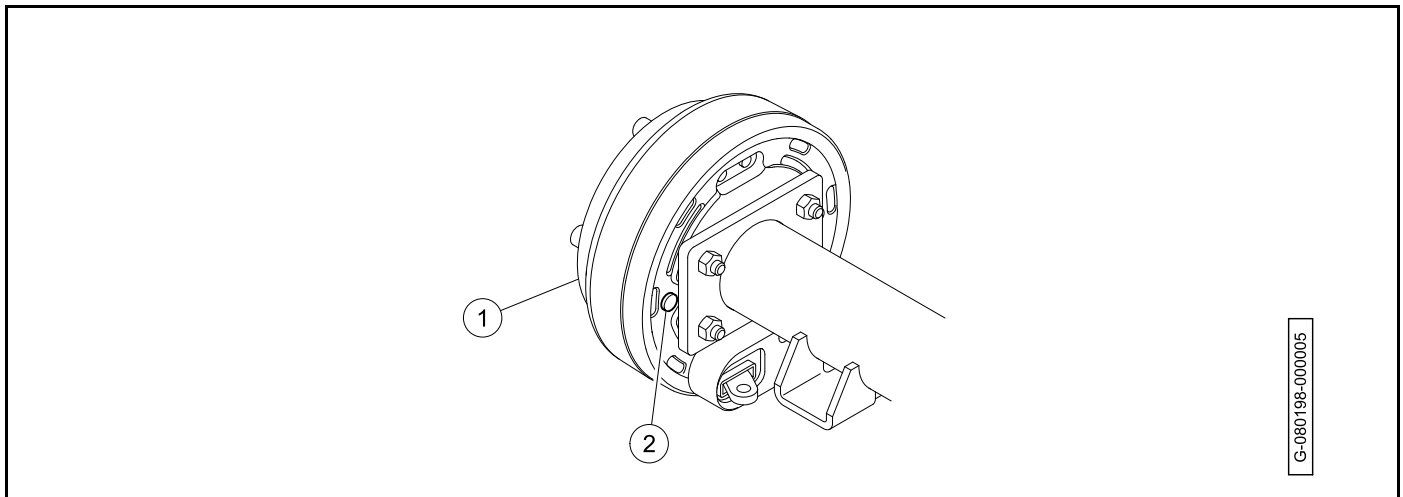

Figure 6-21
13. Remove the clevis pin (2).
14. Remove the brake cable (3) from the brake actuator arm.
15. Remove the brake drum (1) (**Figure 6-21**). If the brake drum cannot be easily removed: